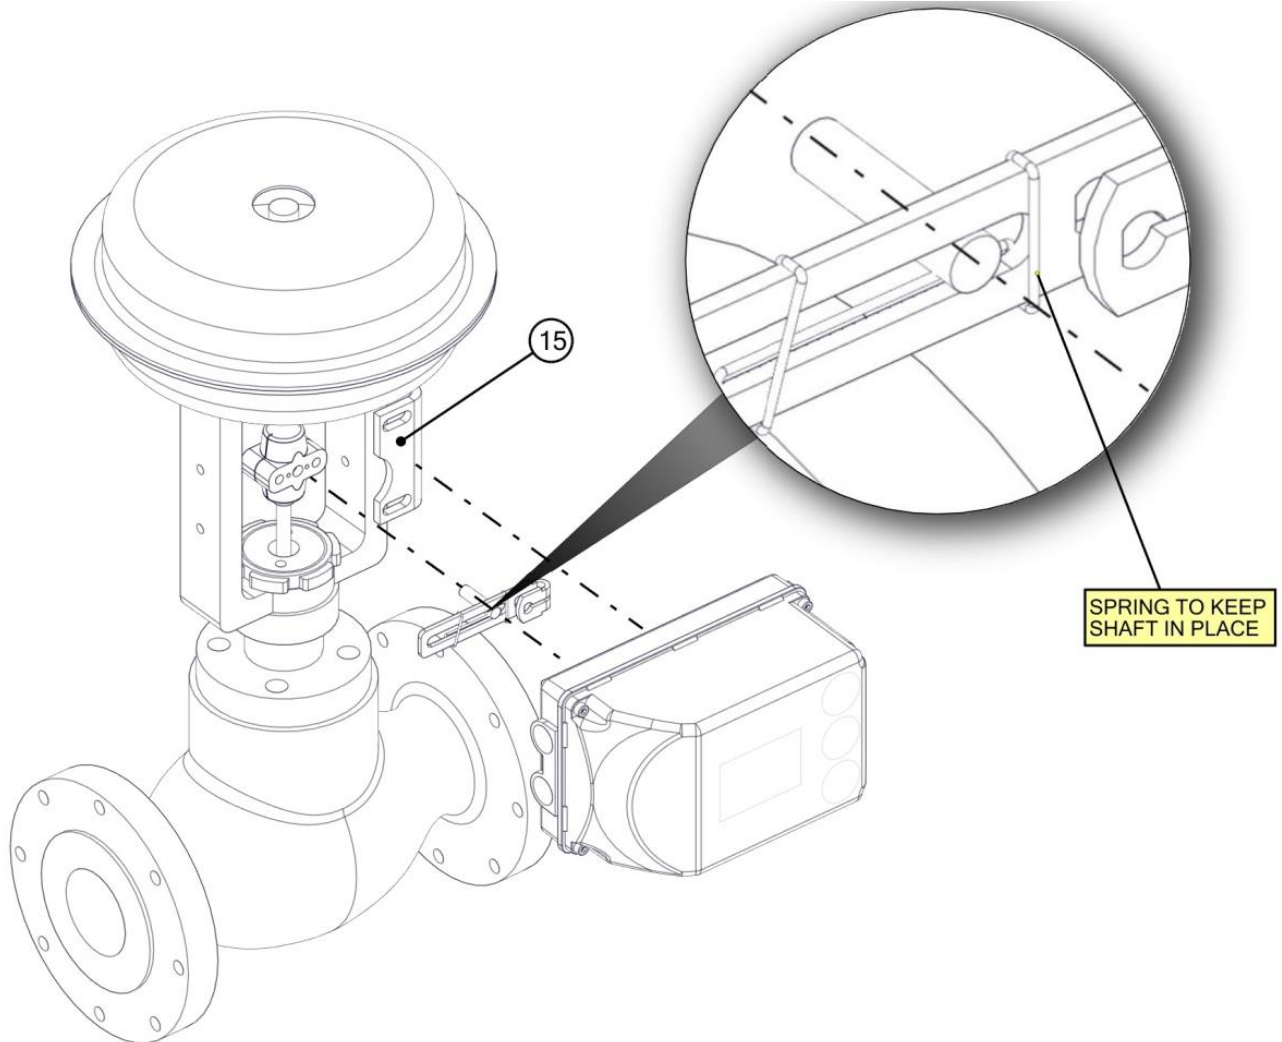

Figure 3: Detailed view of positioner with globe valve.
- Insert the shaft in the slot in the scale and lock it using the locking spring as shown in fig 3.